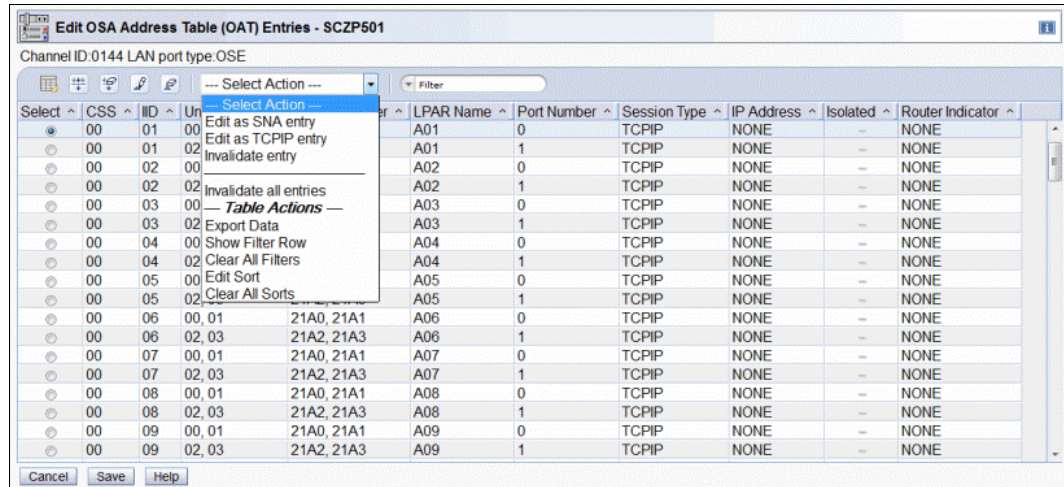

Figure 14-7 OSA/SF on HMC: Select Action for Edit OSA Address Table (OAT) Entries panel
- To edit, select the device in the left column (Figure 14-7). Then click **Select Action** and choose either **Edit as TCP/IP entry** or **Edit as SNA entry** for the selected device.